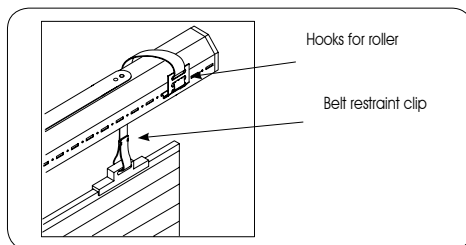

Fig. 22
**👉 NOTE: If the plate cannot be used for securing the belts, use the roller hooks (Fig.1 ref. 8), fitting them in the recesses of the fixed roller as shown in figure 22.**